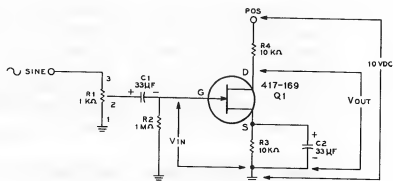
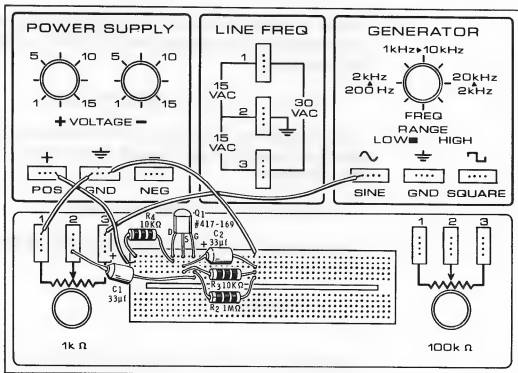

Figure 3-78
Figure 3-79
1. Construct the circuit shown in Figure 3-78. You may wire the circuit according to the wiring diagram shown in Figure 3-79, or you may use any wiring arrangement you choose. Your experimental circuit is a common-source JFET amplifier. Resistor R_3 is a biasing resistor, resistor R_4 is the load resistor and R_2 is the input resistor. C_1 couples the input signal to the gate and C_2 is used to stabilize the bias voltage across R_3 . The sine wave output from your signal generator is applied to the 1 k Ω potentiometer (R_1) which is used to control the input signal amplitude.